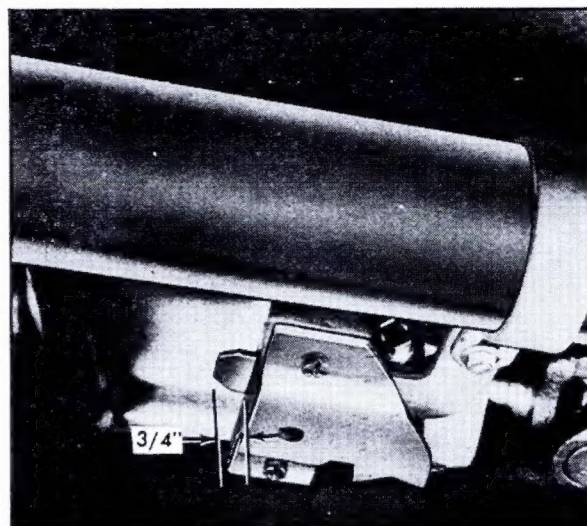

Fig. 8-2 Intermediate Pipe Hanger at Transmission
5. Tighten intermediate pipe hanger at transmission extension housing, Fig. 8-2, to 25 foot-pounds.
8. Install blade of hanger into slot of hanger at transmission extension housing so that blade of hanger sticks out 3/4 inch from slot, Fig. 8-2. Tighten hanger blade to 25 foot-pounds.